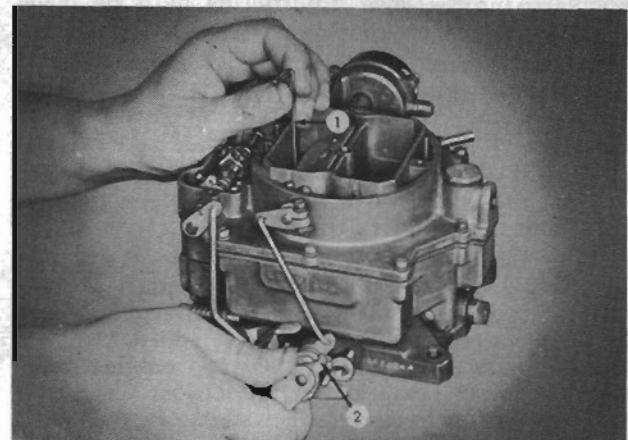

FIG. 106
Unloader (Dechoke)—First, hold the choke valve wide open; then push the throttle wide open (see Fig. 106) and release the choke so it will close. While hold-
ing the throttle wide open, check the clearance between the lower edge of the choke valve and the wall of the air horn (see Fig. 106). There should be $\frac{1}{8}$ " (3,18 mm.) clearance on President Y and Skyhawk models and $\frac{9}{32}$ " (7,1 mm.) on the Goldenhawk. Bend the unloader lip (2), using Bending Tool J-1137, to obtain the proper choke valve clearance.